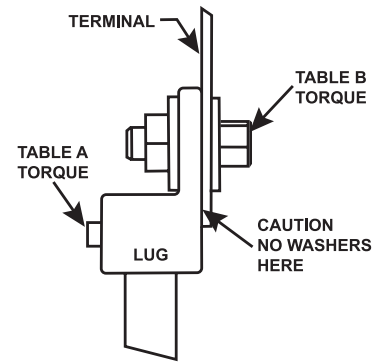

Figure 3 Torque
- Insert the bolt with a flat washer under the head through the holes of the lug and the terminal. Add a flat washer, lock washer and a nut on the opposite side (see **Figure 3**). Tighten per **Table B**.
- There must not be any washers between the terminals and the lugs (see **Figure 3**).